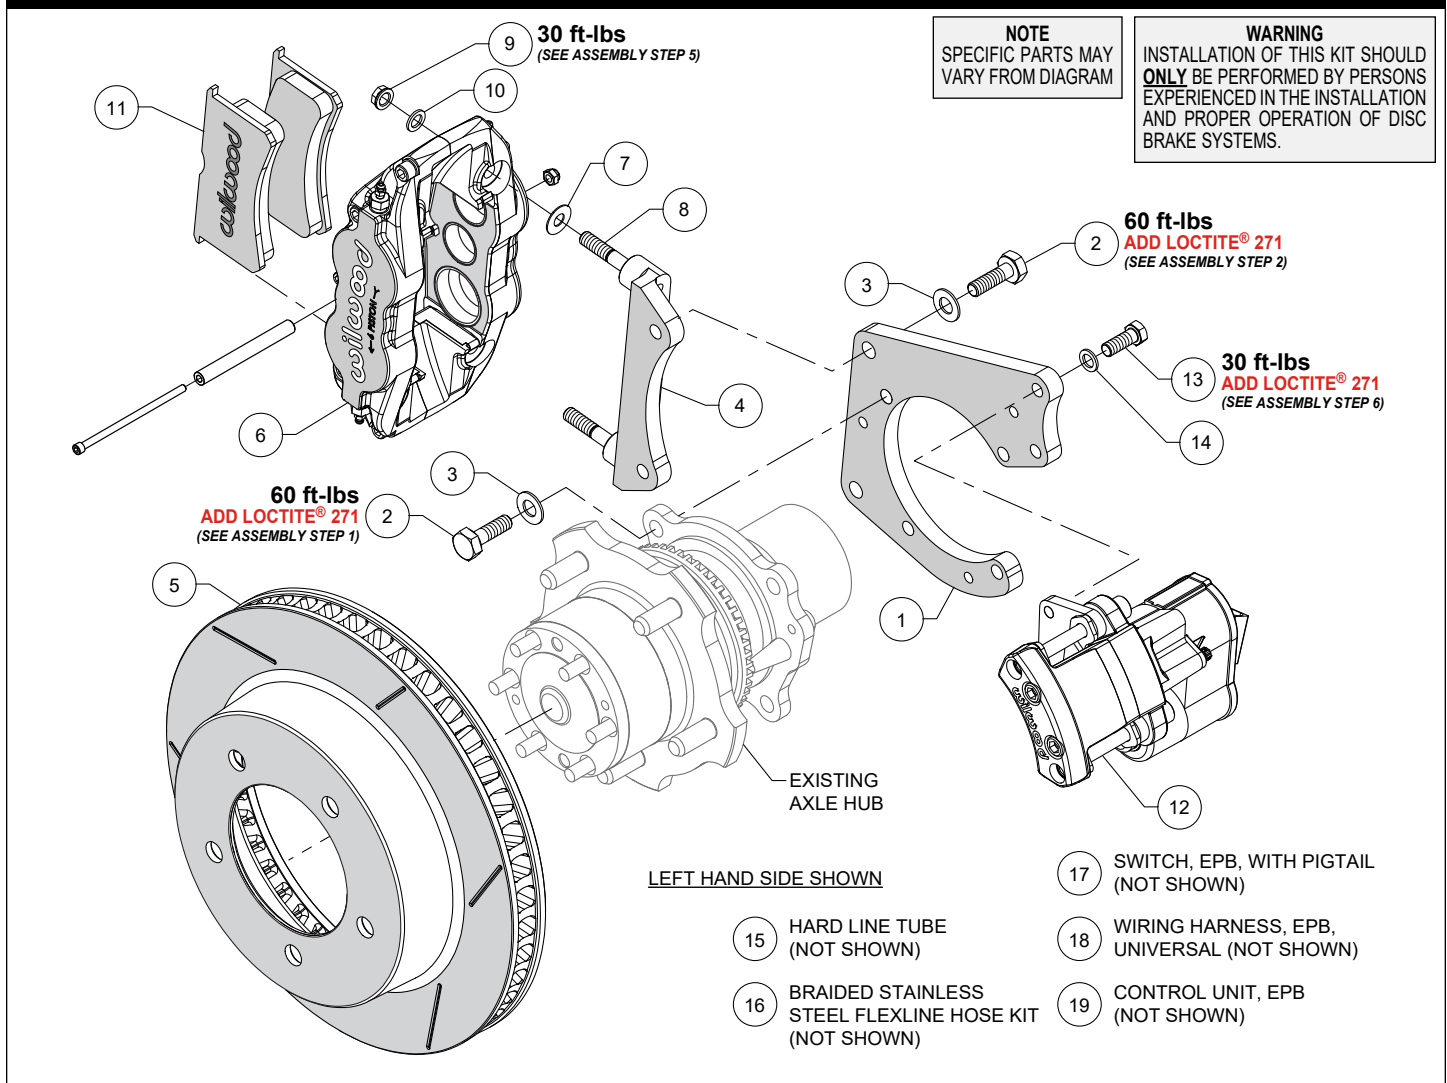

Figure 1. Typical Installation Configuration
**NOTE:** Numbers in parenthesis refer to the parts list and Figure 1 on the preceding pages.
**STEP 1** The primary bracket (1) should initially be installed with clean, dry threads on the mounting bolts. Orient the bracket as shown in Figure 1, and Photo 1, and install using bolts (2) and washers (3). Temporarily tighten the mounting bolts. **NOTE:** The bracket must fit squarely against the axle flange. Inspect for interference from casting irregularities, machining ridges, burrs, etc. Remove the bracket mounting bolts one at a time, apply red *Loctite*® 271 to the threads, and torque to value shown in Figure 1.
**STEP 2** The caliper mount bracket (4) should initially be installed with clean, dry threads on the mounting bolts. Orient the bracket as shown in Figure 1 and Photo 2, and install using mount bolts (2) and washers (3). Temporarily tighten the mounting bolts. Inspect for interference from casting irregularities, etc. Remove the bracket mounting bolts one at a time, apply red *Loctite*® 271 to the threads, and torque to value shown in Figure 1.
**STEP 3** Slide the rotor (5) onto the axle hub, Figure 1. **NOTE:** The rotor must fit flush against the axle hub flange or excessive rotor run out may result. Install three lug nuts (finger tight) to keep the rotor assembly in place while continuing with the installation.
**STEP 4** **NOTE:** This kit contains distinct right and left hand calipers that must be mounted in a specific direction, as described below. Initially place one .035" thick shim (7) on each stud between the caliper and the bracket, as shown in Figure 1 and Photo 3. Mount the caliper (6) onto the bracket (4) using lock nuts (9) and washers (10), Figure 1. Temporarily tighten the lock nuts. Ensure that the caliper is mounted so the largest pistons are at the rotor exit end of the caliper, in relation to the forward direction of the rotor.
**STEP 5** Remove the caliper center bridge pad retainer bolt, nut, and tube from the caliper. Insert the brake pads (11) into the caliper, with the friction material facing the rotor, as shown in Photo 4. Check that the top of the brake pad is flush with the outside diameter of the rotor, Photo 5. If not, adjust by adding or subtracting shims (7) between the caliper and the bracket. After the caliper pad height is set, torque the caliper lock nuts (9) to value shown in Figure 1. Secure the brake pads in place with the center bridge pad retainer tube, bolt, and locknut, Photo 6. The locknut should be snug without play in the bolt or tube. Be cautious not to over tighten.
**STEP 6** Mount the EPB caliper (12) onto the primary bracket (1) using bolts (13) and washers (14), as shown in Figure 1 and Photo 7. Apply red *Loctite*® 271 to bolt threads, and torque to value shown in Figure 1.